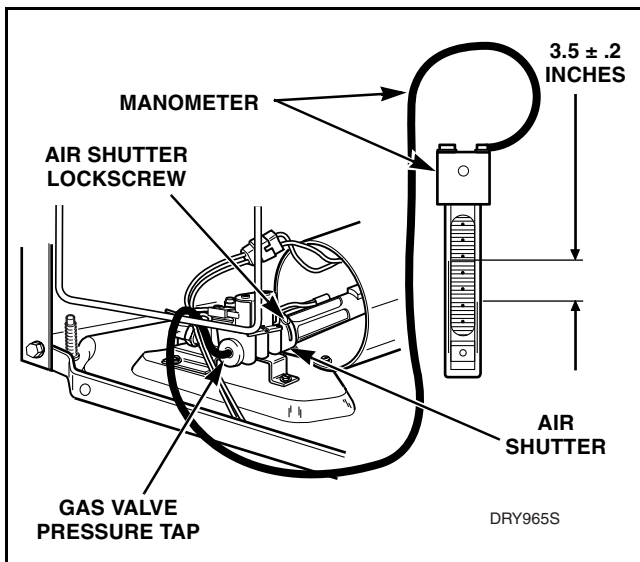

Figure 46
- (2) Connect a “U” tube manometer (or similar pressure gauge) to the pressure tap. Refer to *Figure 46*.
- (3) Start dryer. Pressure should be $3.5 \pm .2$ inches. Refer to *Figure 46*.
- (1) Loosen air shutter lock screw. Refer to *Figure 46*.
- (2) Turn air shutter to the right or left as necessary to obtain proper flame intensity. Refer to *Figure 46*.
- (3) After air shutter is adjusted for proper flame, tighten air shutter lock screw securely.